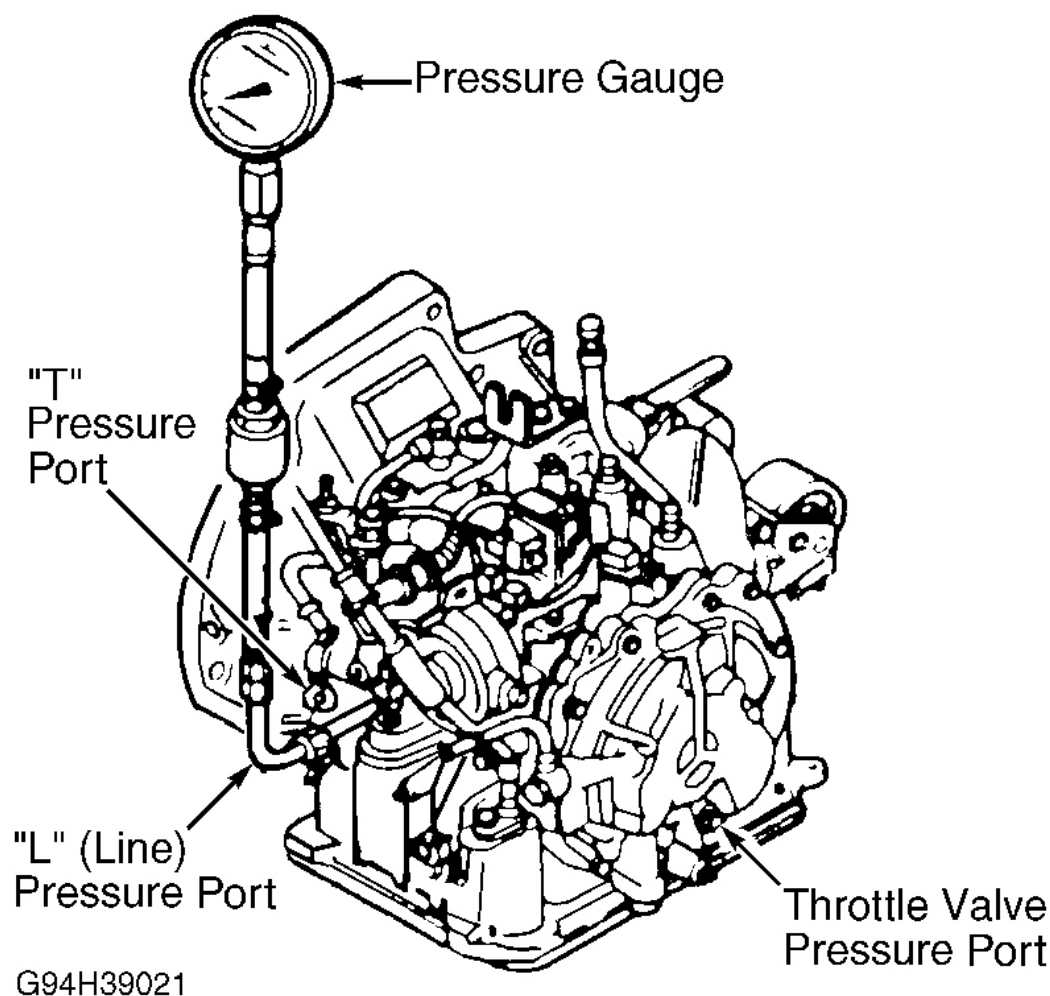

Fig. 4: Connecting Pressure Gauge
1. Block wheels. Connect tachometer to engine. Connect appropriate pressure gauge to line pressure port (square head plug, marked "L"). See **Fig. 4**.